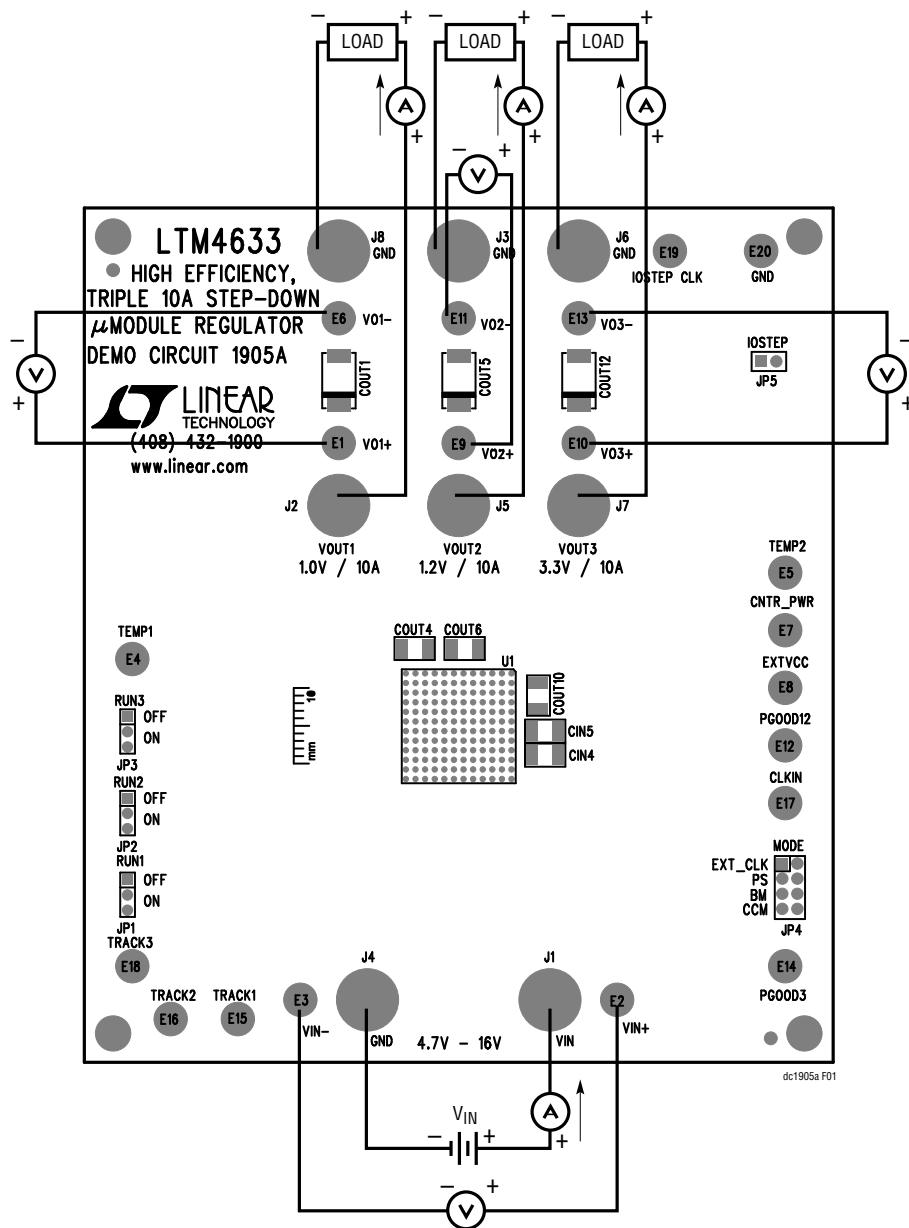

Figure 1. Measurement Setup of DC1905A
Demonstration circuit DC1905A is an easy way to evaluate the performance of the LTM4633EY. Please refer to Figure 1 for proper measurement equipment setup and follow the procedure below:
2. With power off, connect the input power supply, loads and meters as shown in Figure 1. Preset the load to 0A and V_{IN} supply to 12V.